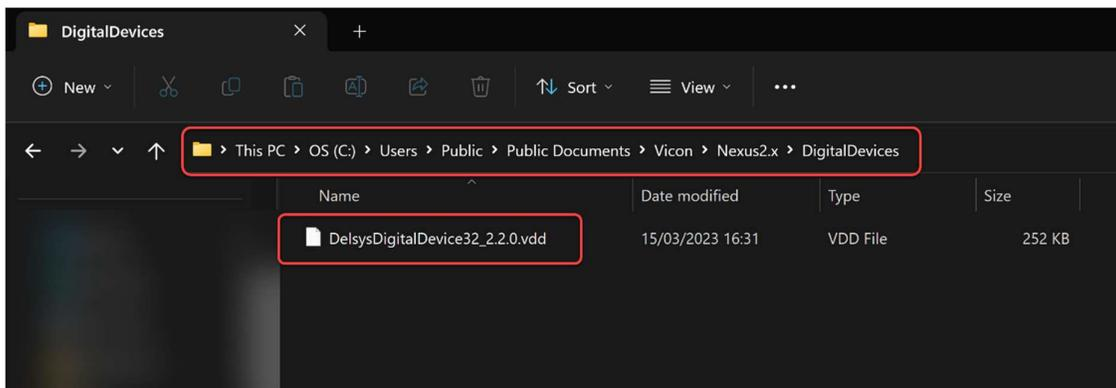

Figure 3b: Screenshot of the necessary file path for the .vdd file.
b) Place the **DelsysDigitalDevice32_2.2.0.vdd** in the *DigitalDevices* folder (Figure 3b).